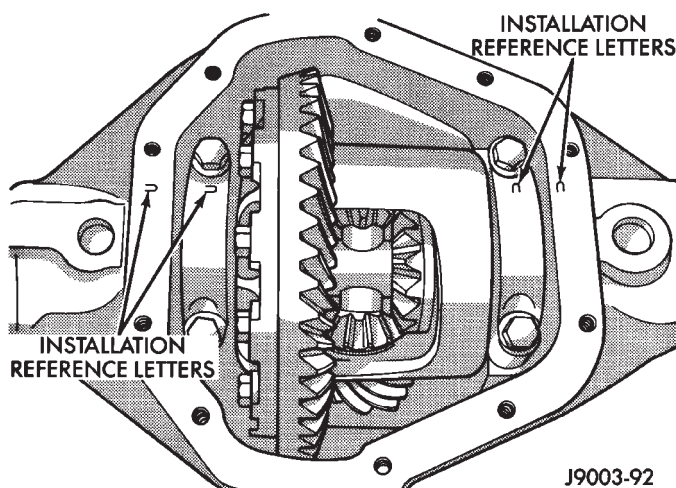

Fig. 14 Differential Bearing Cap Reference Letters
(8) Install the bearing caps at their original locations (Fig. 14). Tighten the bearing cap bolts to 109 N·m (80 ft. lbs.) torque.
(9) Install axle shafts.